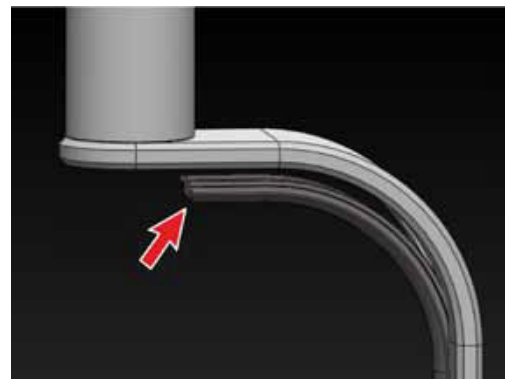

Figure 92
- Remove the rubber Cable cover on the L-Arm by pulling out as shown in Figure 92 .